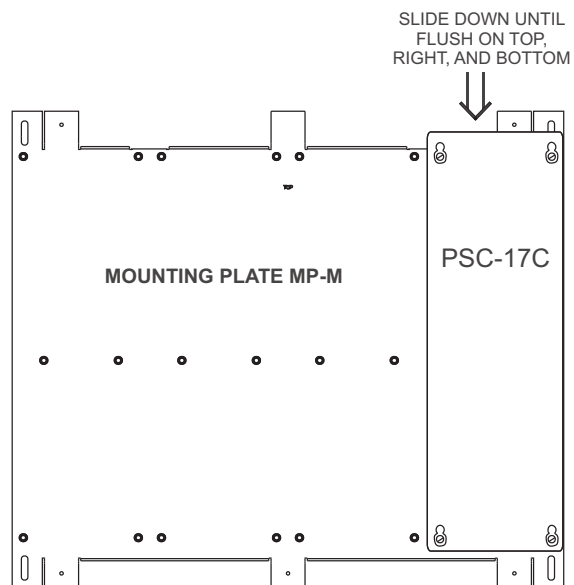

Figure 6
2. Place the PSC-17C over the four screws on the Mounting Plate and slide it down or towards you to rest on the four screws. (Refer to Figure 6.) When the PSC-17C is in the correct position it will be flush with the top, bottom and right side of the Mounting Plate.